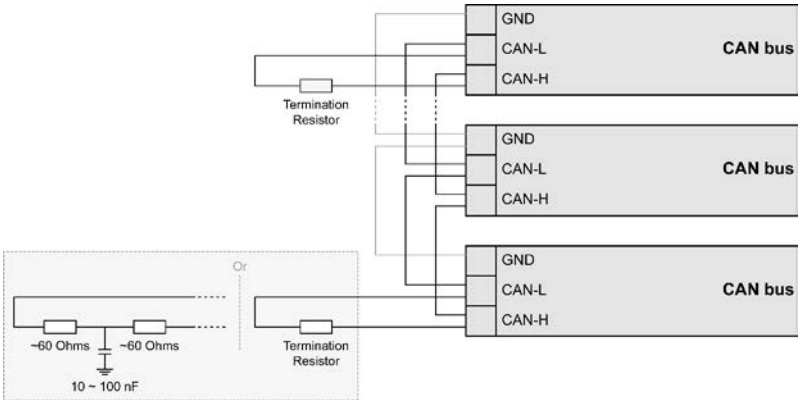

Fig. 48: CAN bus - termination
Please note that the CAN bus must be terminated with a resistor, which corresponds to the impedance of the cable (e.g. 120 Ohms, 1/4 W) at both ends. The termination resistor is connected between CAN-H and CAN-L (Fig. 48).
- Divide the termination resistance into 2x60 Ohms with a center tap connected to ground via a capacitor of 10 to 100 nF (Fig. 48).